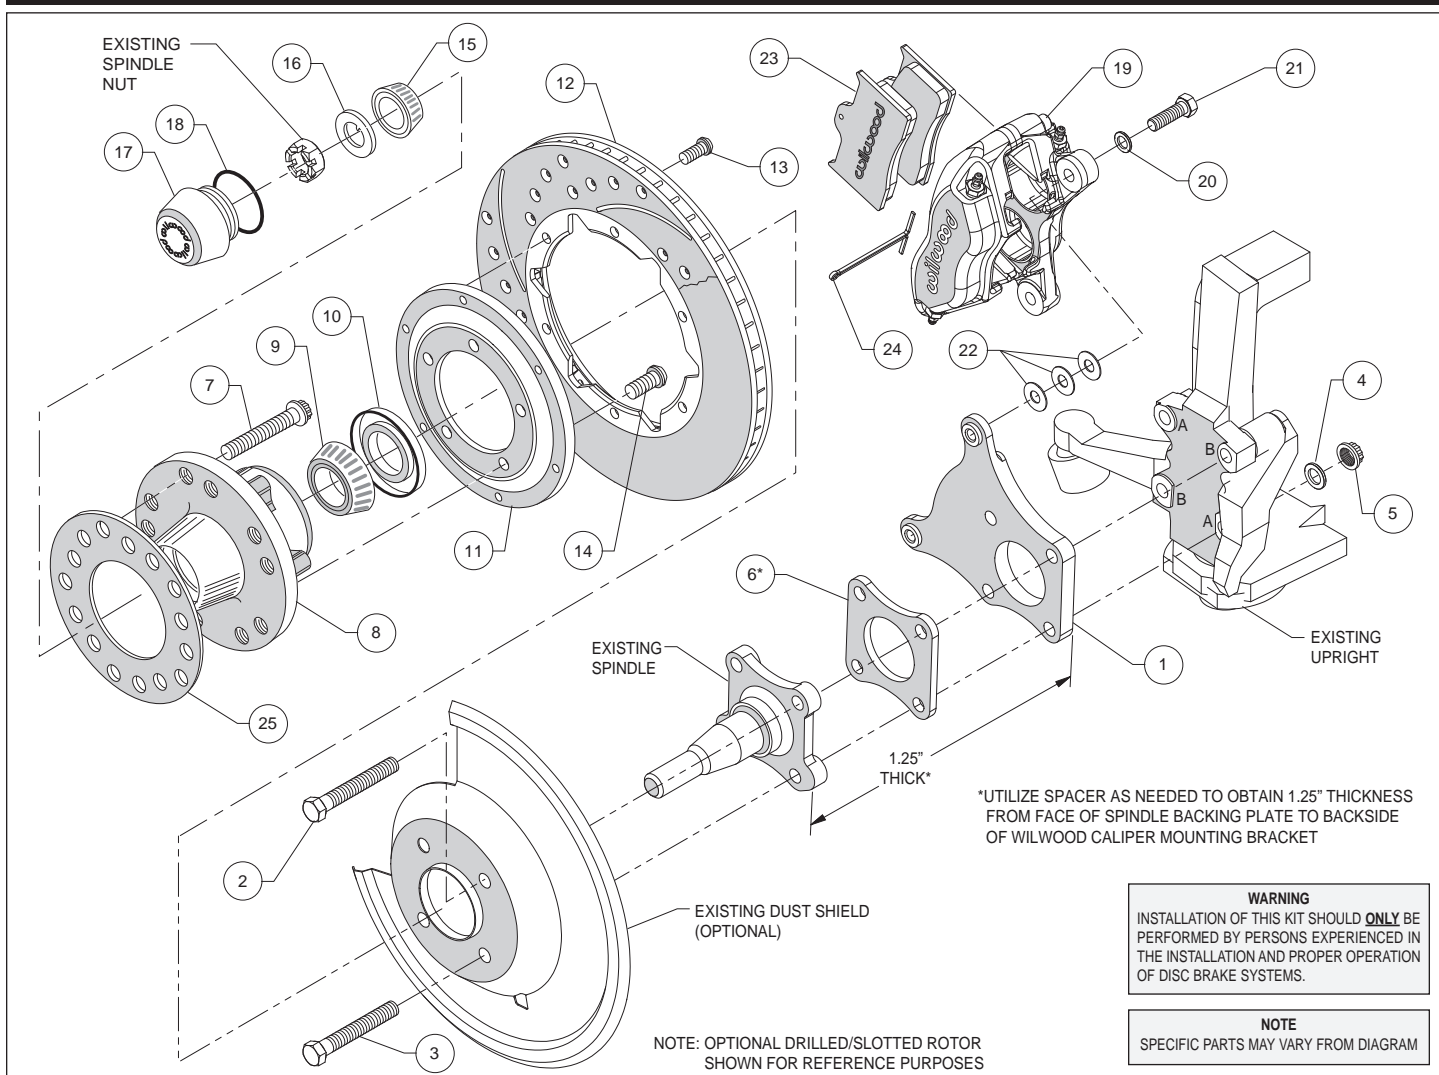
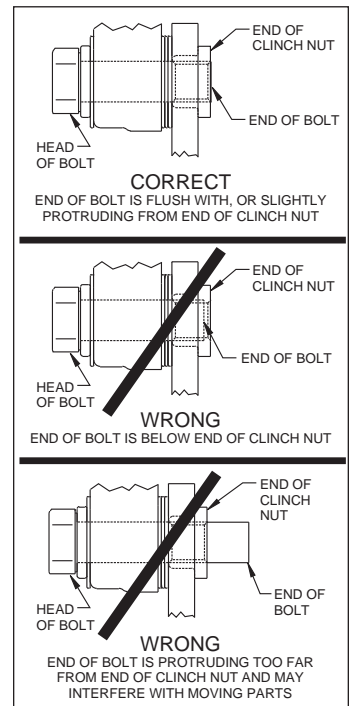

Figure 1. Typical Installation Configuration
Figure 3. Clinch Nut Engagement Diagram
Assembly Instructions (numbers in parenthesis refer to the parts list, on the preceding page and Figure 1): **CAUTION:** *All mounting bolts must fully engage clinch nuts.* Be sure to check that all bolts are either flush or protruding through flanged side of clinch nut after shimming, Figure 3.
- Align caliper mounting bracket (1) with the corresponding holes, between the upright and the spindle. Attach using bolts (2 and 3), washers (4), and locknuts (5) as shown in Figure 1 and Photo 1. Bolt (2) goes into holes on the upright designed with a "B" and bolt (3) goes into the "A" marked holes, Figure 1. Measure the thickness of the spindle and mounting bracket, Figure 1. If approximately 1.00", place spacer (6) between the spindle and mounting bracket to achieve the correct thickness. Temporarily tighten the mounting bolts. Ensure that the flanged heads of the clinch nuts in the bracket are facing outboard, Photo 1. **NOTE:** *The bracket must fit squarely against the mounting bosses on the upright.* Inspect for interference from casting irregularities, machining ridges, burrs, etc. Remove bolts one at a time, apply red *Loctite*® 271 to threads and torque to 47 ft-lbs.
- Install wheel studs (7) into the hub (8), Photo 2. Torque to 77 ft-lb. **NOTE:** *There are two five lug patterns in the hub (5 x 4.50 and 5 x 4.75).* Ensure the correct hub stud pattern is being used to fit the wheel application.
- Pack the large inner bearing cone (9) with high temperature disc brake bearing grease (available from your local auto parts store) and install into the backside of the hub (8), Photo 3.
- Install the grease seal (10) by pressing into the backside of the hub (8), flush with the end of the hub, Photo 3.
- Orient the rotor (12) and the rotor adapter (11) as shown in Figure 1 and Photo 4. Attach the rotor to the adapter using bolts (13). Using an alternating sequence, apply red *Loctite*® 271 to the threads, and torque to 25 ft-lb.
- Mount the adapter/rotor assembly (11/12) to the hub (8) using bolts (14), as shown in Figure 1 and Photo 5. Using an alternating sequence, apply red *Loctite*® 271 to the threads, and torque to 55 ft-lb.
- Screw dust cap (17) into hub (8), Photo 7. Friction created by the o-ring (18) on the dust cap keeps it from unscrewing. **NOTE:** The O.D. of the existing OEM spindle washer may be larger than the I.D. of the dust cap not allowing it to seat against the hub face. Therefore, use the spindle washer (16) supplied with the kit instead of the OEM washer.
- NOTE:** Please reference the caution statement at the beginning of the assembly instructions. Mount the caliper (19) onto the caliper mounting bracket (1) using bolts (21) and washers (20), as shown in Figure 1. Initially place three .035" thick shims (22) on each bolt between the caliper and the bracket, Photo 8. Temporarily tighten the mounting bolts and view the rotor (12) through the top opening of the caliper. The rotor should be centered in the caliper, Photo 9. If not, adjust by adding or subtracting shims between the bracket and the caliper. Always use the same amount of shims on each of the two mounting bolts. **NOTE:** The end of each bolt must be flush with or slightly protruding from the head of the clinch nut, as shown in Figure 3. If necessary place spare shims between washer (20) and caliper mounting ear to achieve the proper clinch nut engagement. Once the caliper alignment and clinch nut engagement are correct, remove the bolts one at a time, apply red *Loctite*® 271 to bolt threads, and torque to 40 ft-lb.